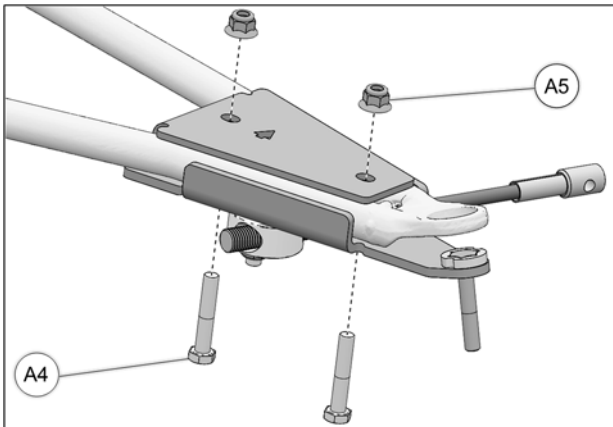

Fig. 23
12. Insert the M10x55 mm bolts (A4) through the bottom and secure the two parts together with the nuts (A5) provided. Tighten assembly to 50 N•m [37 lb•ft] of torque. See Fig. 23